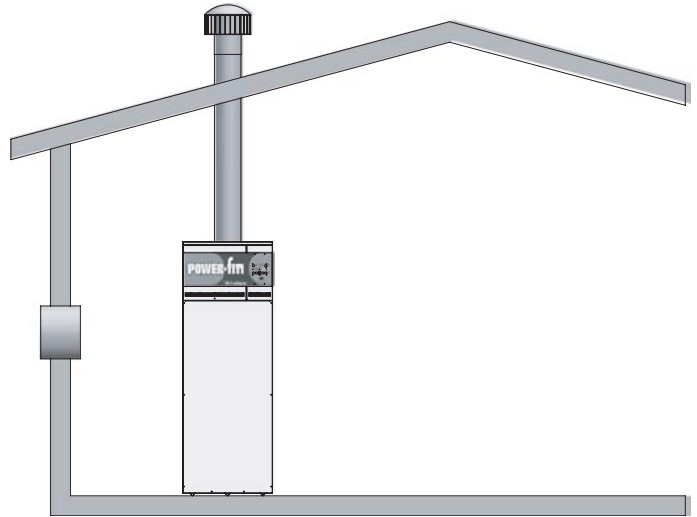

Figure 1-5_Combustion Air from Outside - Single Opening
- If a single combustion air opening is provided to bring combustion air in directly from the outdoors, the opening must be sized based on a minimum free area of one square inch per 3000 Btu/hr (7 cm² per kW). This opening must be located within 12" (30 cm) of the top of the enclosure (see FIG. 1-5).